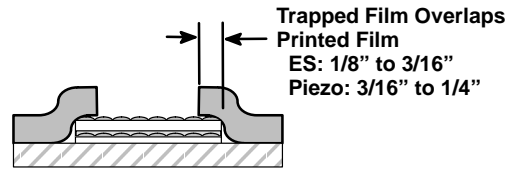

Figure 3. Overlaps Required for Trapped Film
3. Position the trapped film over the printed film, ensuring the overlap specified in Figure 3.